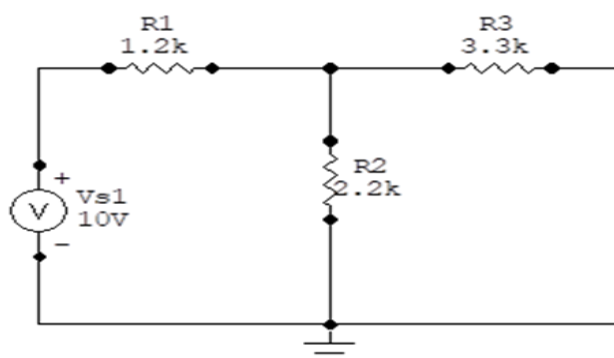

FIG 3.2
- (e) Construct the network of Fig 3.2 note: The source (E2) has been removed.
(f) energize the network of fig 3.2 and measure the voltages indicated in table 3.5 calculate the currents using ohm's law use measured resistor values.
TABLE 3.5 Measured values for the network of Fig 3.2
(g) Calculate the percent difference between calculated and measured (as determined from the voltage reading) values for Fig 3.2 using the calculated results of Table 3.3 and the equation: